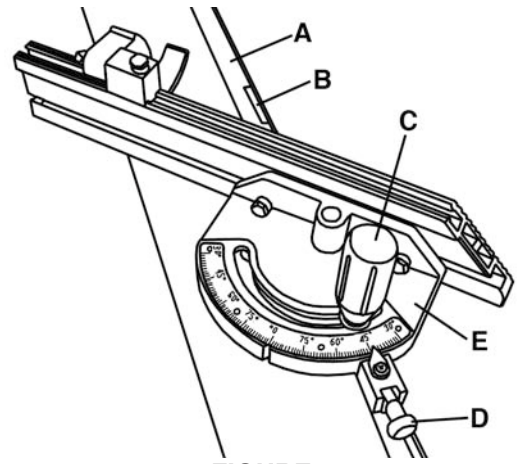

FIGURE 15
The miter gauge shown in Fig.15 normally gets positioned on the left side of the blade by sliding the miter gauge bar (A) into the table T-slot. It is important to make sure there is no side to side play, to adjust, loosen cap screws which hold adjust guide blocks (B), tighten the set screws mounted in the adjust guide blocks, retighten the 2 cap screws and test the adjustment, adjust as necessary.
To operate the miter gauge, loosen lock knob (C) Fig.15, pull out the spring loaded positive stop knob (D) and pivot the miter gauge body (E) to the desired angle, release the positive stop knob once you have reached your desired angle and tighten lock knob (C). If you desire a 0° or 45° setting to the right or left, it is not necessary to pull out the positive stop knob, simply turn the miter gauge body until it snaps into one of the positive stop positions.